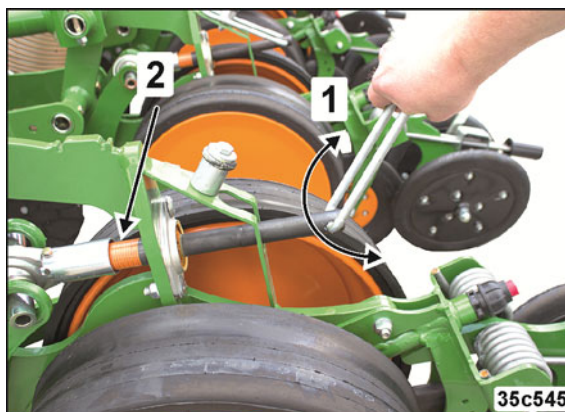

Fig. 175
2. Set the desired placement depth by turning the spindle (Fig. 175/2) with the clamp (Fig. 175/1).